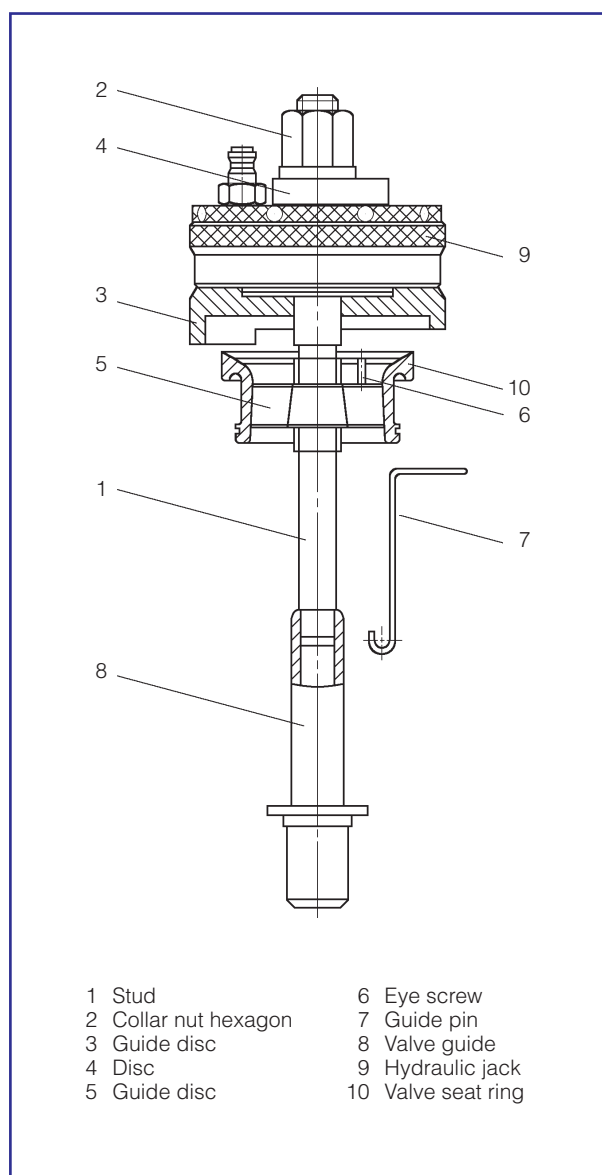

Fig 1
Dismounting of a valve seat ring is carried out by means of a special extractor tool set comprising following components, see fig 1.
- 2) The guide disc (3) is positioned so that it bears against the bottom of the cylinder head, and the hydraulic jack is clamped with the disc (4) and collar nut hexagon (2), see fig 1. The hydraulic jack is the one used for main bearing caps.